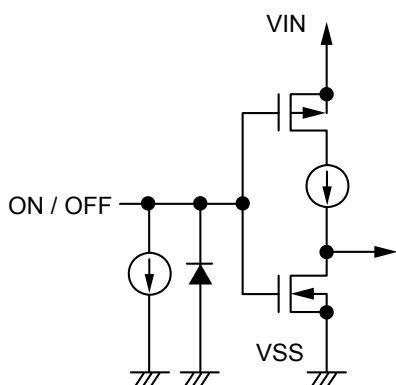

Figure 17 S-1313 Series A / C type
When the ON / OFF pin is set to OFF level, the entire internal circuit stops operating, and the built-in P-channel MOS FET output transistor between the VIN pin and the VOUT pin is turned off, reducing current consumption significantly. Note that the current consumption increases when a voltage of 0.25 V to $V_{IN} - 0.3$ V is applied to the ON / OFF pin. The ON / OFF pin is configured as shown in **Figure 17** and **Figure 18**.
*1. Note that the IC's current consumption increases as much as current flows into the constant current of 0.1 μ A typ. when the ON / OFF pin is connected to the VIN pin and the S-1313 Series A / C type is operating (refer to **Figure 17**).